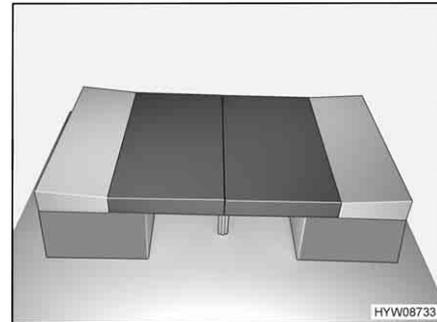

Fig. 94 After conversion
- Insert the back cushions between the seat cushions and the wall (see Fig. 94).